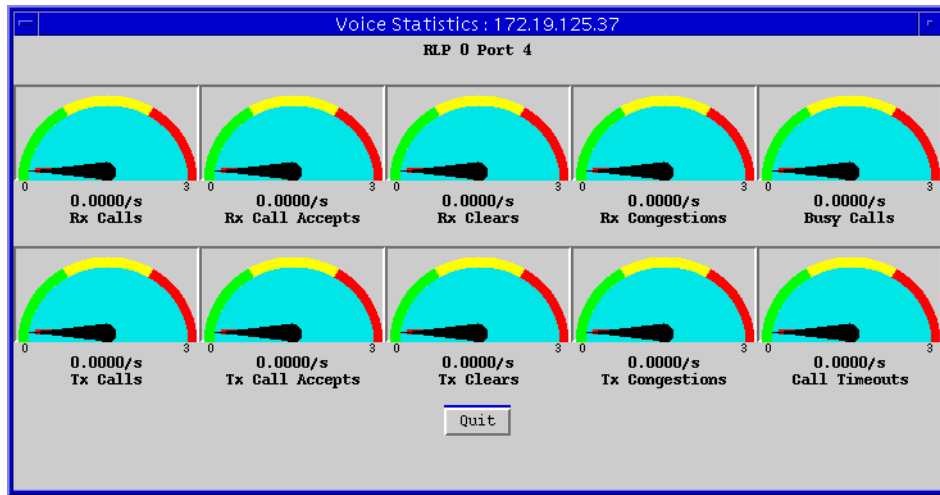

Figure 12-5. Voice Statistics
2. Drag down to **Voice Stats**, and release. The Voice Statistics window, Figure 12-5, will appear.